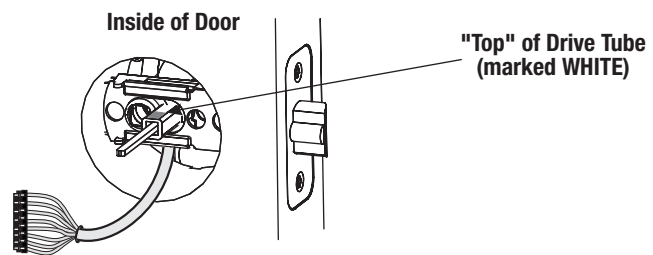

Figure 1B
While supporting cylinder tailpiece (with finger); rotate key 90° **clockwise (CW)** to vertical position (Figure 1B).
**NOTE:** RH shown; with LH lever, rotate key 90° **counter-clockwise (CCW)**